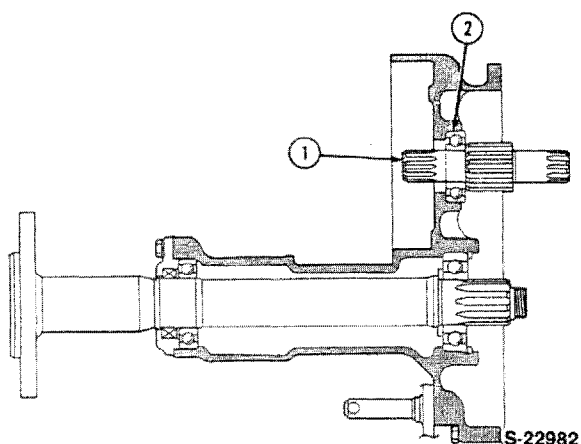

Figure 27
3. If the final pinion is to be removed, gently drive the pinion out of the housing, Figure 27.